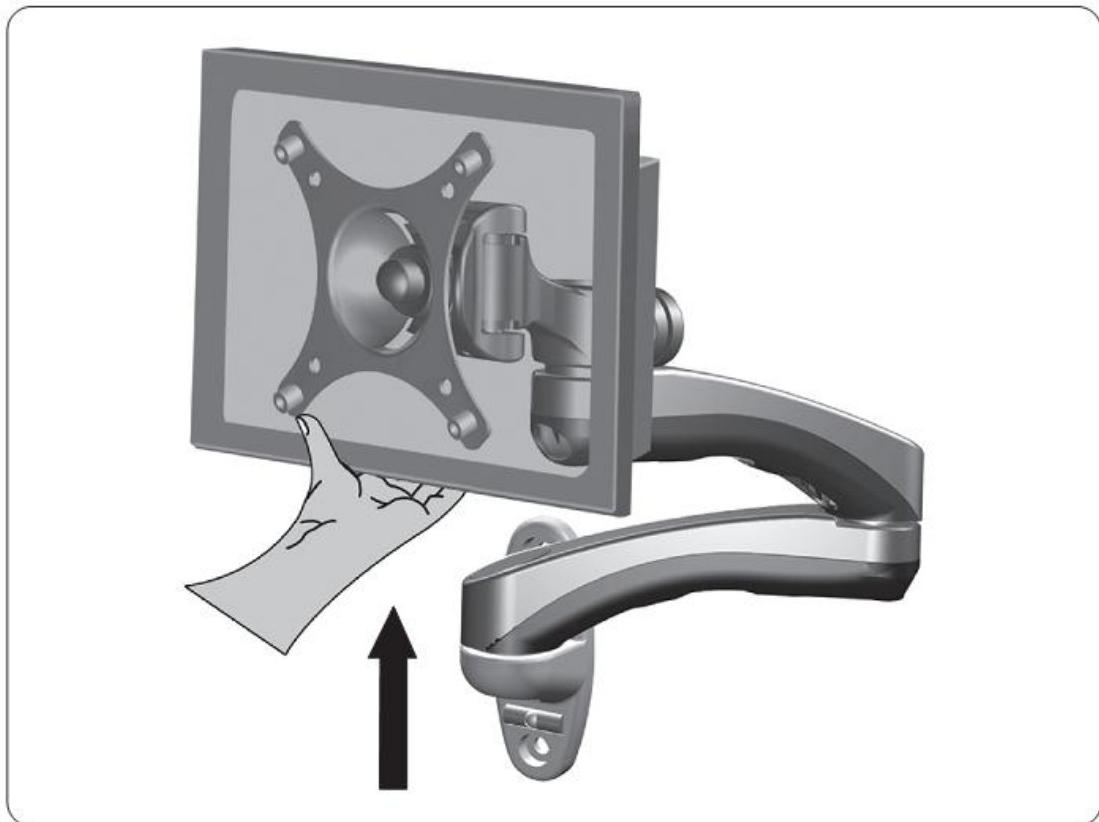

Figure 5-1
1. Support display monitor when adjusting the resistance of the Wall Mount LCD Arm Assembly (**See Figure 5-1**).